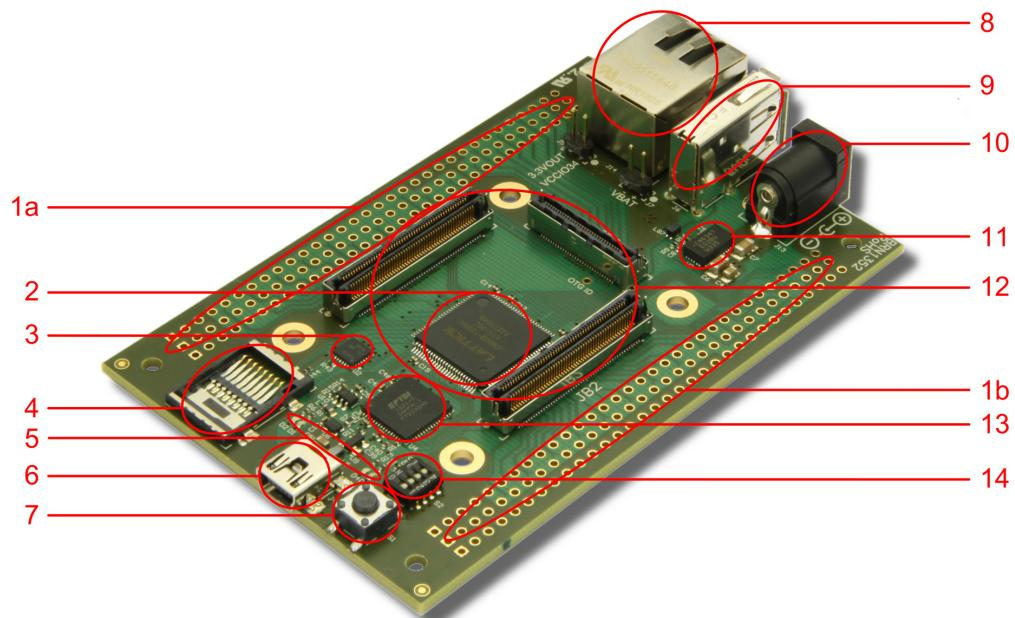

Figure 1: TE0703 (REV 01).
- 2.) Plug a standard USB A-Male to Mini-B cable into the USB port of the Host PC and into the mini USB connector (see (6) in Figure 1 of TE0703 Carrier Board for TE07xx Series User Manual) on the TE0703 Carrier Board.